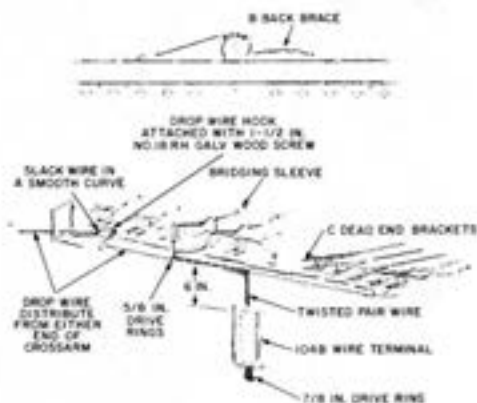

Fig. 4—For More Than Two Drops Use a 104B Wire Terminal Mounted on Pole
- 4.12 The wiring arrangement on DE crossarms equipped with back braces is shown in Fig. 4.